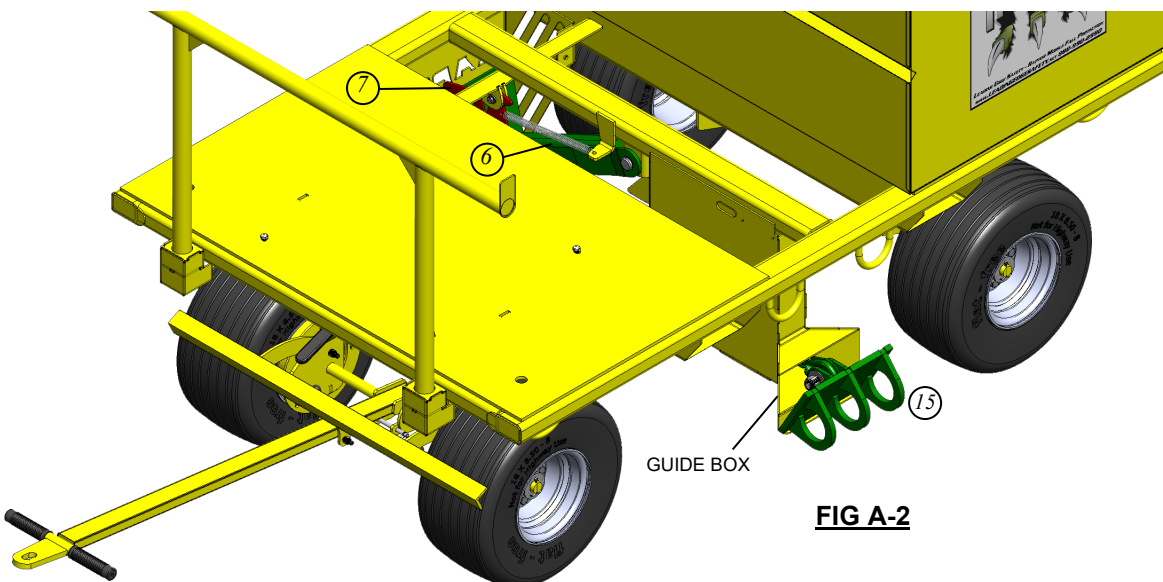

FIG A-2
3 Ring Attachment Point (15) for fall arrest is not resting flush with the guide box. (FIG A-2)